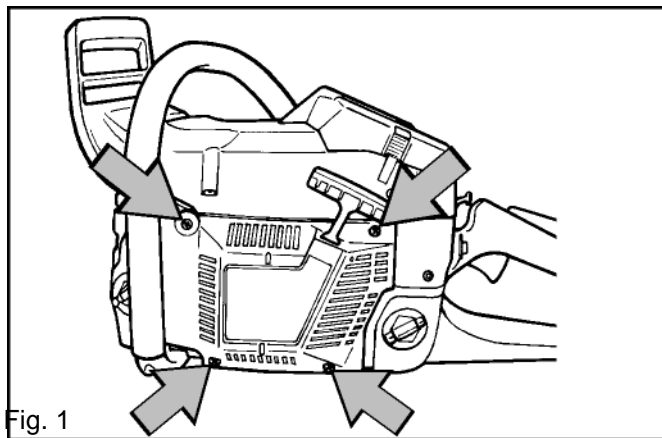

Fig. 1
1. Undo the four bolts that fasten the starter assembly to the crankcase and remove it. See fig. 1.
8. Refit the starter assembly onto the crankcase. Tighten the bolts to 4 Nm. See fig. 1.
2. Release the blue lead (A) (which connects to the stop switch) from the ignition module (B). See fig. 1.
3. Remove the HT lead (C) from the spark plug, release both leads from the cable guide (D) and lift out the cable guide. See fig. 1.
4. Undo the two M4-bolts and remove the ignition module (B). See fig. 1.
5. Undo and remove the two pawls (E) for the recoil starter. See fig. 1.